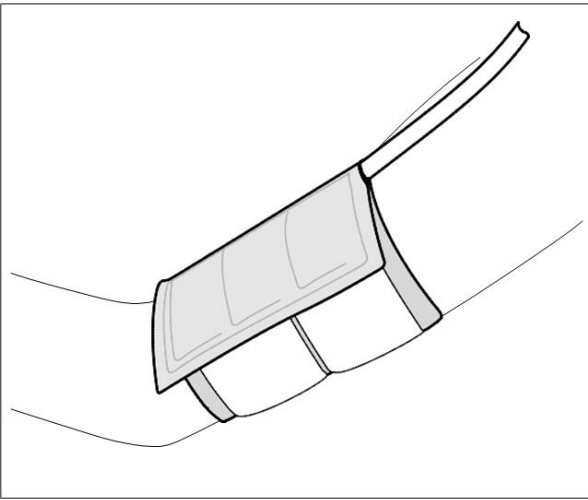

Fig. 4-1 Applying the cuff
- The cuff tubing points up towards the shoulder (Fig. 4-1),